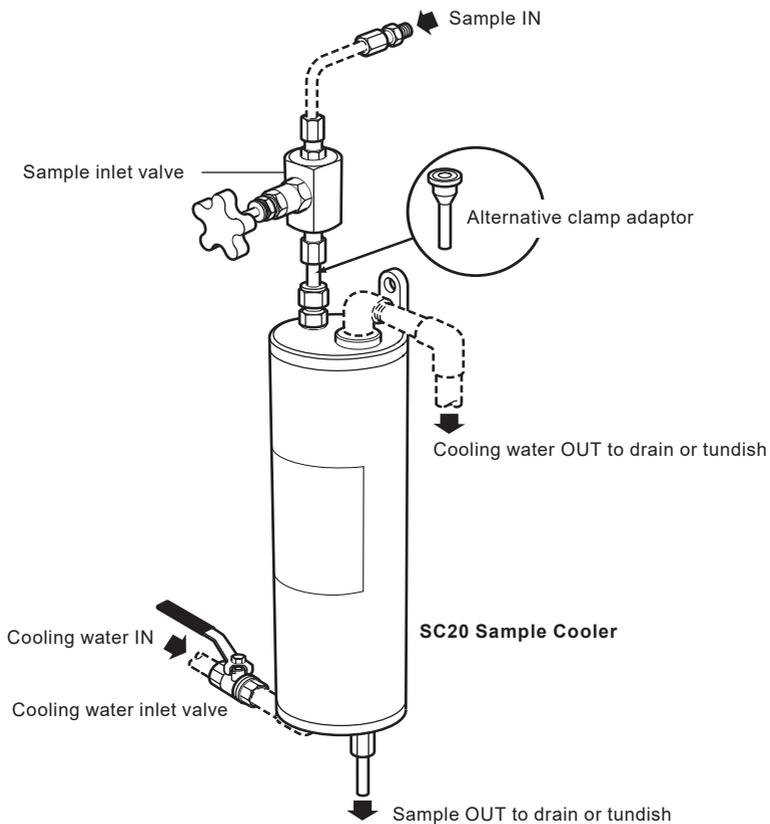

Fig. 3
- Connect the pipework as shown in the drawing (Figure 3). The cooling water IN should be piped to the bottom of the sample cooler in $\frac{1}{2}$ " nominal bore pipe via the cooling water inlet valve. A $\frac{1}{2}$ " BSP/NPT male/female elbow makes a suitable connector.